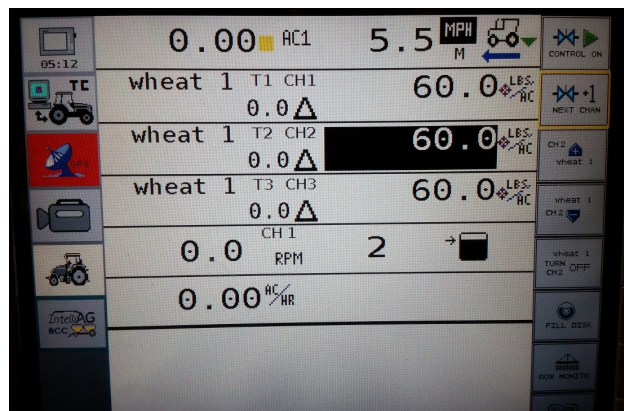

Figure 35
Step 7. Return to Main Menu (Figure 35)